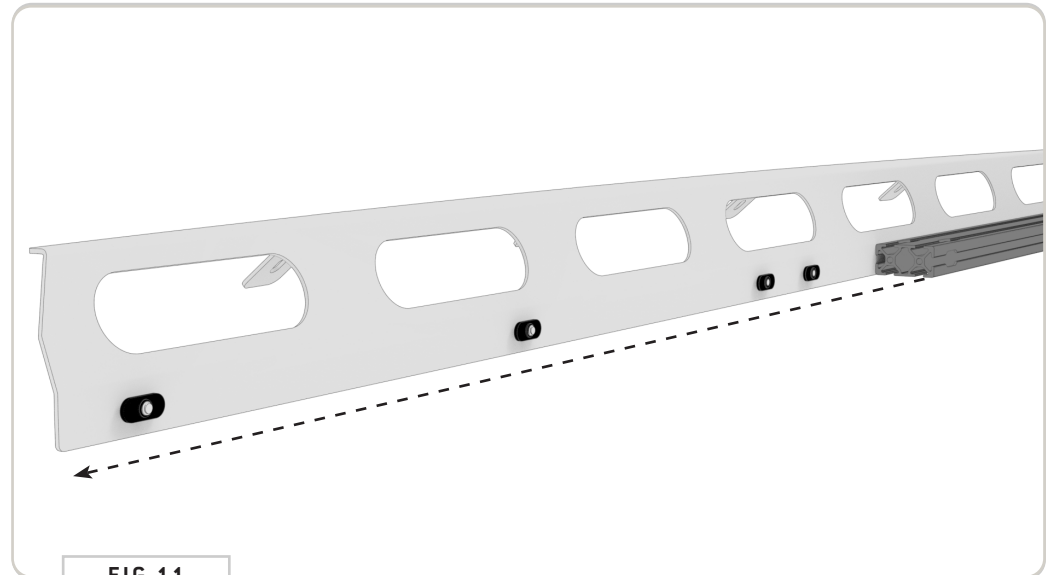

FIG 11
4.2 Crossbar Install: Now, slide the Crossbar onto the Crossbar Fairing Bracket. You'll have to straighten each T-Nut as you go to get it to feed into the crossbar correctly (FIG 11).